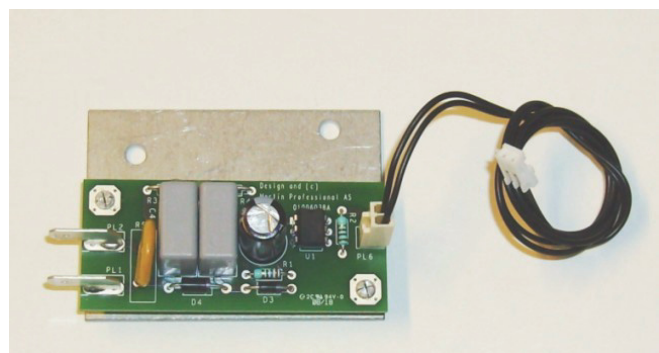

Figure 21
23. See Figure 21. An opto-switch for the remote lamp on/off circuit is supplied with the Upgrade Kit (see "J" in Table 1).